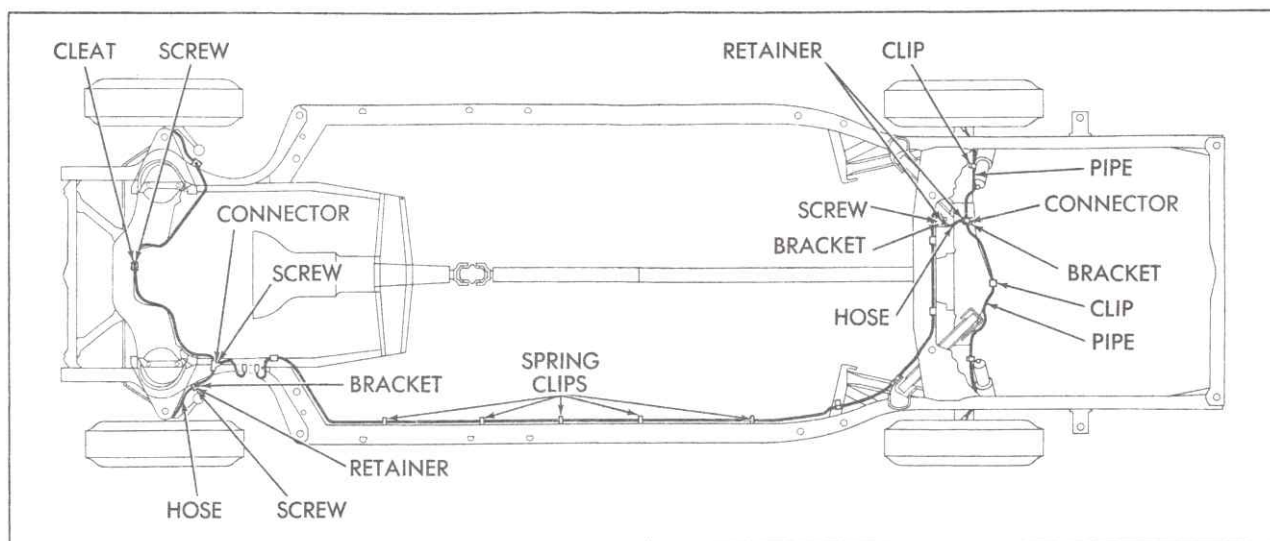

Fig. 5-9 Hydraulic Brake System
Hydraulic pressure is transferred to the wheel cylinders through steel brake piping, and flexible hoses, Fig. 5-9.
### a. Removal—Hydraulic Brake Hose (Front Wheels) Fig. 5-9
**e. Removal—Hydraulic Brake Piping (Rear Wheels) Fig. 5-9**